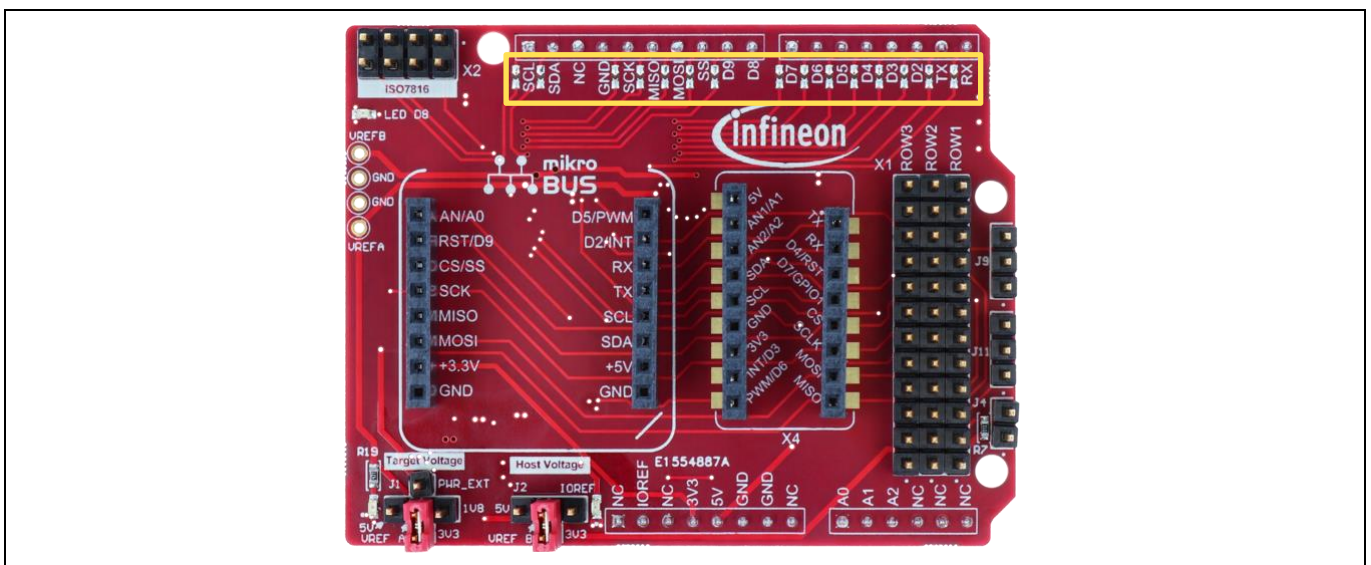

Figure 7 Level Shifter Bypass on the top side
- Bypass signals with solder jumpers on the top side, see Figure 7